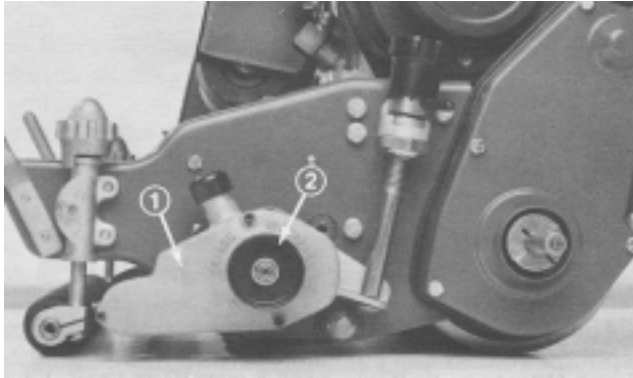

Figure 12
18. Reinstall the clutch housing cover to clutch housing, using the (3) socket head screws and lock-washers previously removed (Fig. 12).
19. Reinstall the clutch engagement knob to the clutch assembly with two allen head set screws, previously removed (Fig. 12).